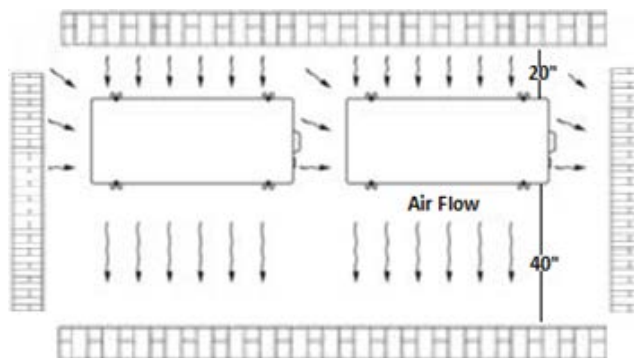

Figure 5-2: Minimum Clearances and Air Flow
1. Clearances shown in Figure 5-2 assume no wall extends more than 6 in. above roof top of heat pump. There is no overhead roof and no more than two barrier walls on either side.